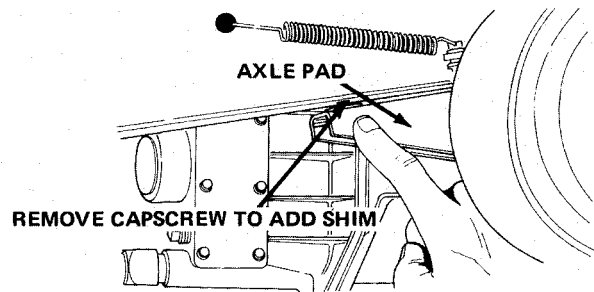

Figure 48
frame (Fig. 48). By contrast, a transmission that is too low will not allow the ruler or scale to lay alongside the coupling retainer. To correct this problem, install a 1/16 inch (1.6 mm) spacer between front of mounting pad and bottom of frame.
3. To install spacers, remove the appropriate two capscrews and loosen the others (Fig. 48). If spacers must be added to front of mounting pad, remove front capscrews and loosen the back ones. Do just the opposite to add spacers at rear of mounting pads.